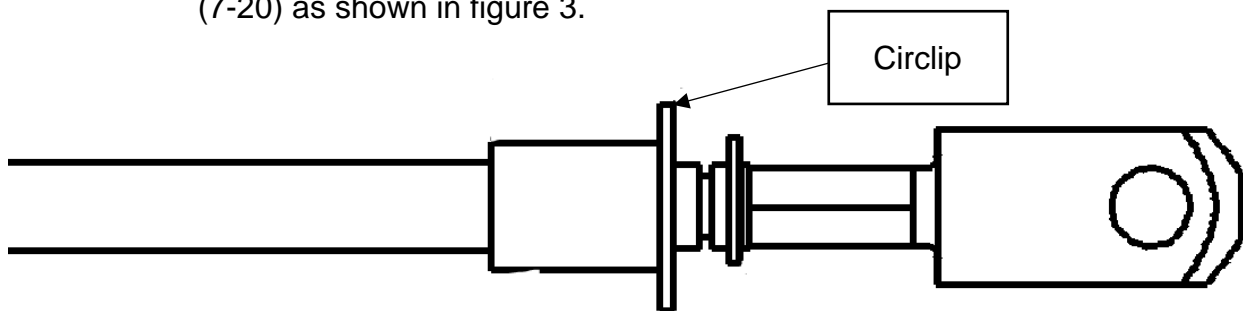

FIGURE 3
- a. Remove the slic pin (3-115) and the circlip from the cable - longitudinal lock (7-20) as shown in figure 3.